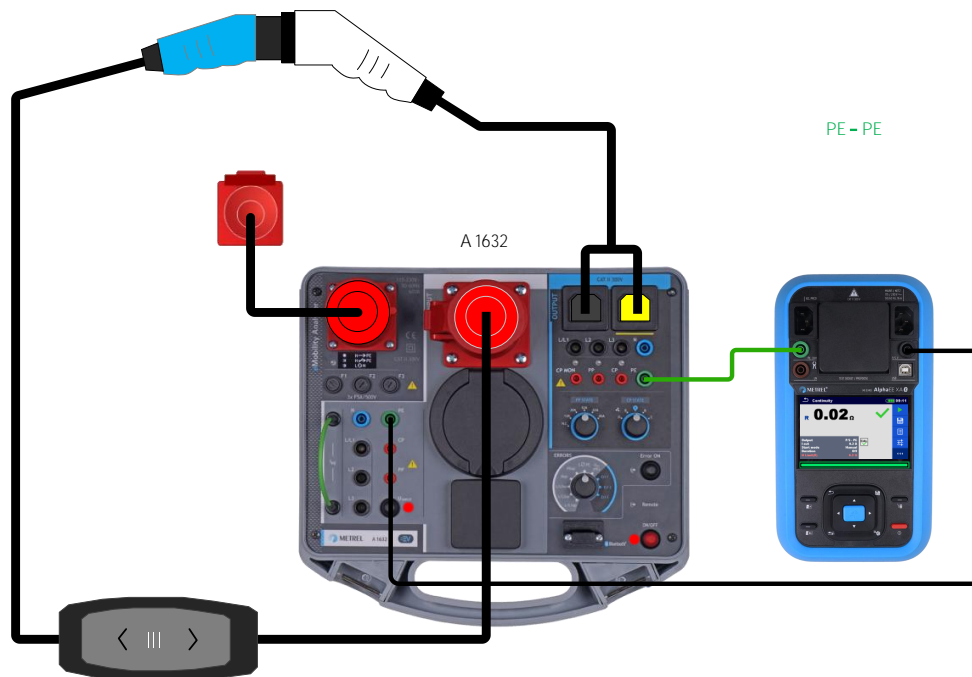

Figure 7_Continuity of protective earth
- Connect the EV cable according to the connection diagram Figure 7_Continuity of protective earth,